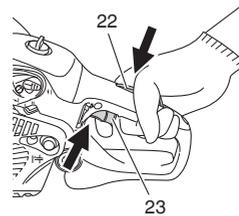

Fig. 18
8. As soon as the engine starts, pull throttle lever (23) full once with the throttle lever lockout (22) pressed and immediately release the throttle lever (23). Then half-throttle is disengaged. (Fig. 18)